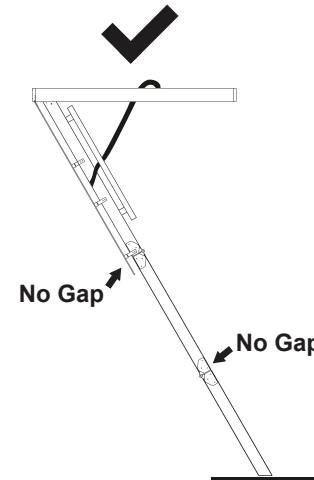

Figure 22
Y. Installer #1: Verify that there are no gaps between the ladder sections and that both feet are supported on the floor. Trimmed correctly, the attic ladder should look like Figure 22. Minor adjustments to eliminate ladder section gaps and to position both feet on the floor can be made by re-positioning the feet in different rail holes.